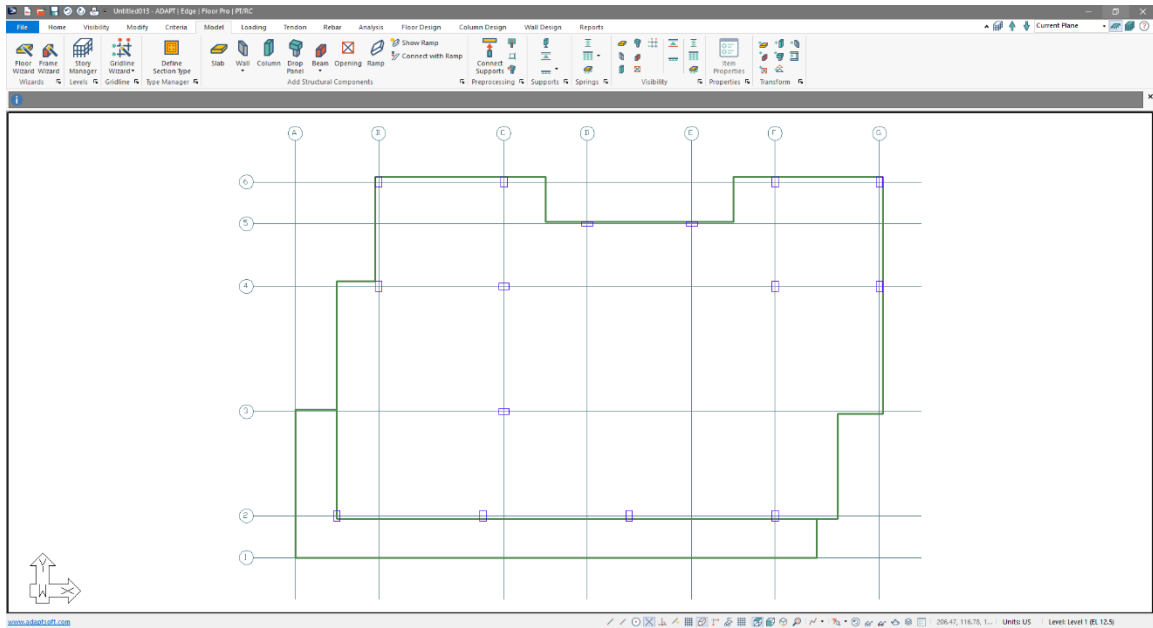

Figure 2-30
- Click on the *Zoom Extents*  icon. The user should see the slab and columns modeled as shown in **FIGURE 2-30**.